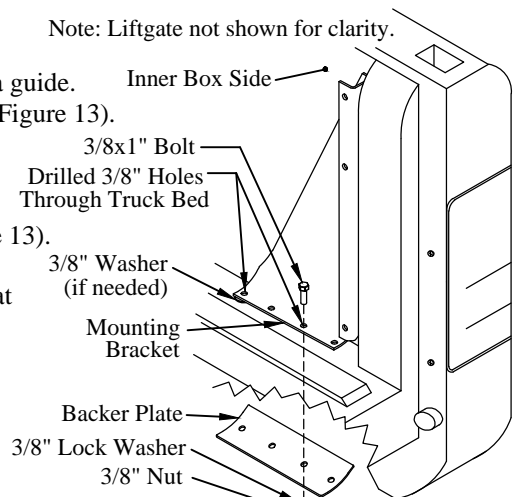

Figure 13: Mounting bracket and backer plate.
Choose two of the four holes provided with no obstructions on the underside (Figure 13).
- (2) 3/8"x1" hex head bolts on the top-side (Figure 13).
- (1) backer plate, (2) lock washers, and (2) hex nuts on the under-side (Figure 13).